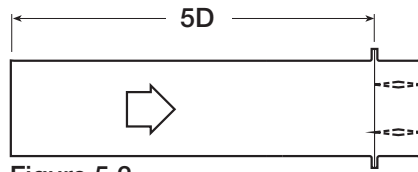

Figure 5.2
**Figure 5.2** Illustrates a ducted damper exhausting air into an open area. This configuration has a lower pressure drop than Figure 5.5 because entrance losses are minimized by a straight duct run upstream of the damper.
## AMCA Figure 5.2